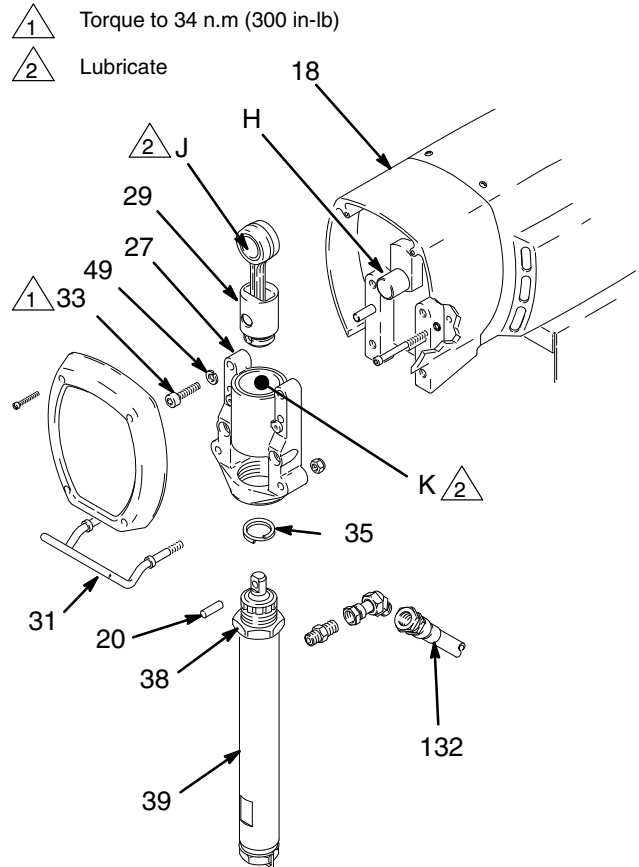

Fig 18
2. Remove front cover (31). Remove bearing housing screws (33). See Fig. 18 and part list.
3. Tap lower rear of bearing housing (27) with plastic mallet to loosen it from drive housing (18). Pull bearing housing and connecting rod (29) straight off drive housing.
4. Inspect crank (H) for excessive wear and replace parts as needed.
5. Evenly lubricate inside of bronze bearing (K) with motor oil. Liberally pack roller bearing (J) with bearing grease.
6. Assemble connecting rod (29) and bearing housing (27).
8. Align connecting rod with crank (H) and align locating pins in drive housing with holes in bearing housing (27). Push bearing housing onto drive housing or tap into place with plastic mallet.
9. Install bearing housing screws (33). Torque evenly to 34 N.m (300 in-lb).